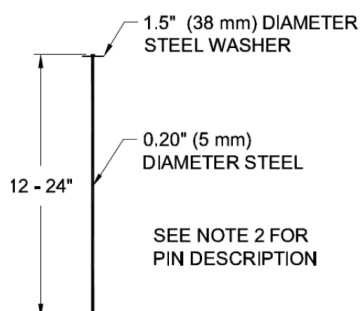

Figure 4: Securing Pin
- Secure **PROPEX** Armormax with pins and secondary anchors in the COS trench. Pins should be made of steel with a 0.20 in (5 mm) minimum diameter, having a 1.5 in (38 mm) diameter washer at the head, and a length between 12 in and 24 in (300-600 mm) with sufficient ground penetration to resist pullout (Figure 4). Longer pins may be required for looser soils. Heaver metal stakes may be required in rocky soils. Suggested placement of pins and Secondary anchors for the COS trench is along the bottom of the trench with pins on 12 in (300 mm) centers in between Secondary anchors on 4 ft (1.2 m) centers. Secondary anchors should also be installed on panel edge overlaps in the COS trench.